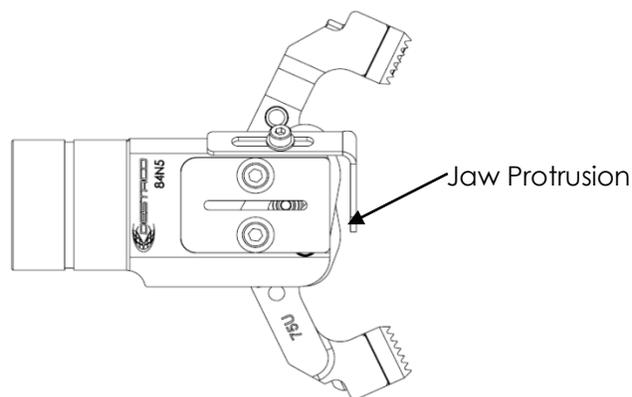

Fig.6
5. Jaw openings exceeding 60° opening the blank stopper must remain away from the body due to jaw protrusion (see Fig.6).